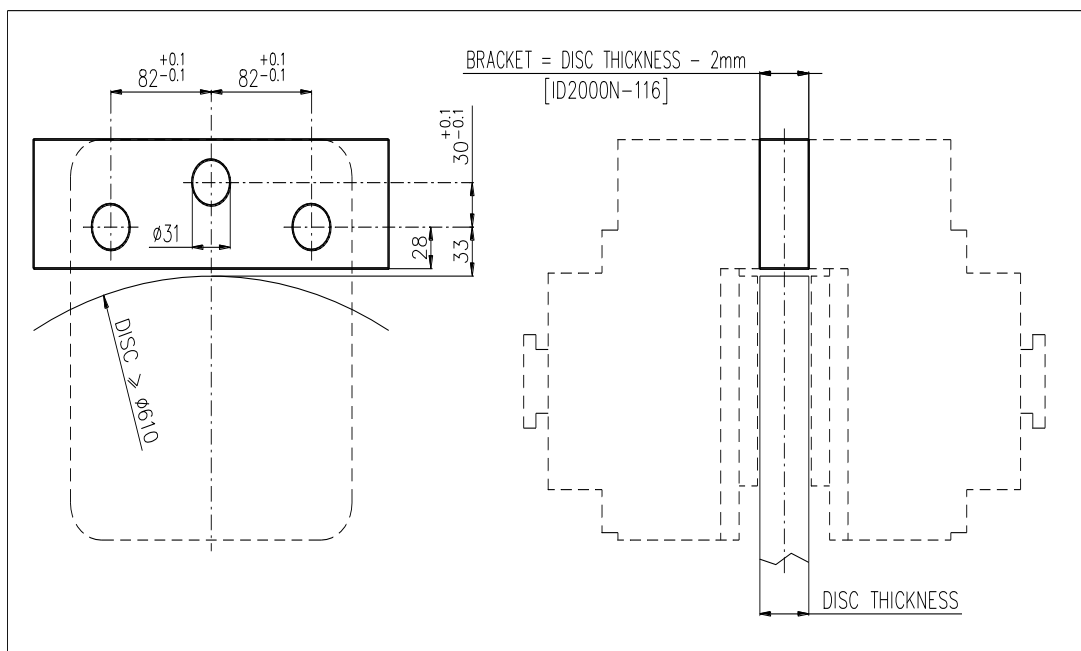

Figure 1
1. The ID 2000N-116 brake must be installed on a bracket having the same thickness as the disc minus 2 mm (Figure 1).